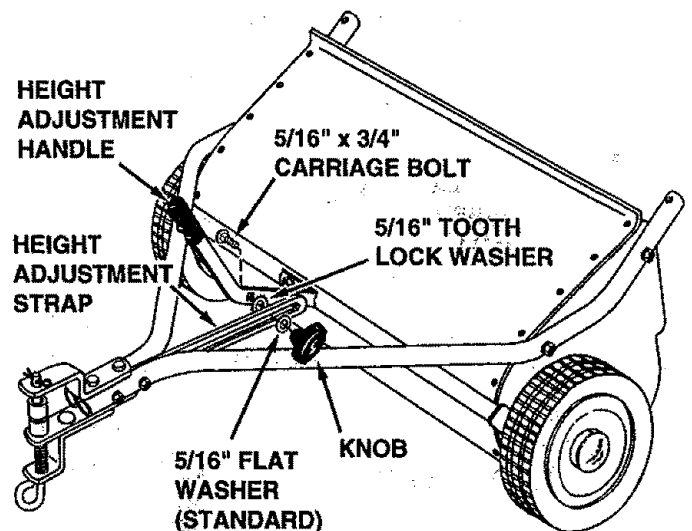

FIGURE 7
- Place the 5/16" tooth-lock washer between the height adjustment handle and the height adjustment strap. Insert the 5/16" x 3/4" carriage bolt through the handle, the tooth-lock washer and the strap. Assemble the 5/16" standard flat washer and the plastic knob onto the end of the bolt and tighten. See figure 7.